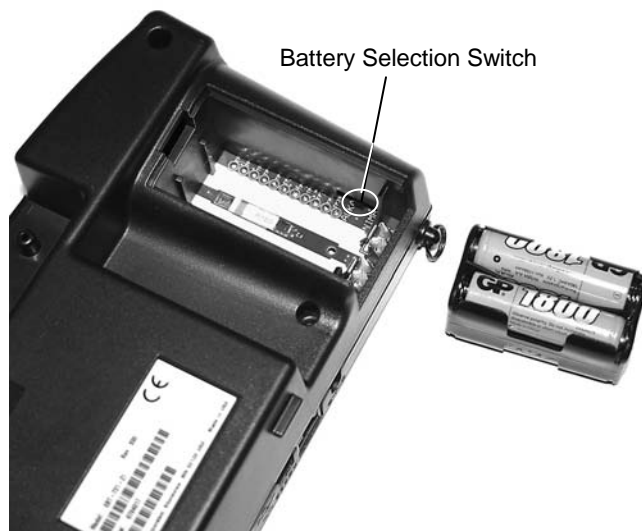

Figure 5: Location of Battery Type Selector Switch
4. Refer to Figure 5 and set the battery selection switch to indicate the type of batteries you are using.
5. Verify the battery selection switch is correctly set (see Figure 5).